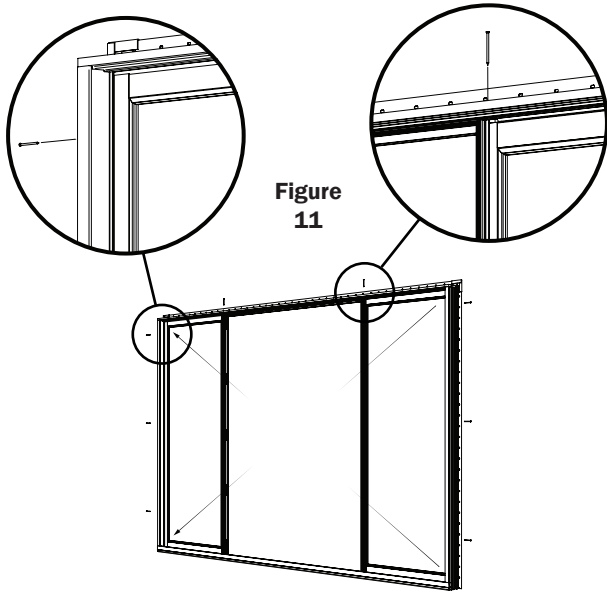

Figure 11
12. Pre-Drill 3 holes into the side jamb, one towards the top, one in the middle and one towards the bottom. Starting on one side and from the top, work down the frame to fasten the provided #6 x 2-1/2" Phillips Flat-Head screws (Fig. 11). Next, screw in the provided #8 x 3" Phillips Flat-Head screw through the head jamb and into the stationary panel interlock stile, (use one screw for a 2-Wide unit and two screws for a 4-Wide unit).